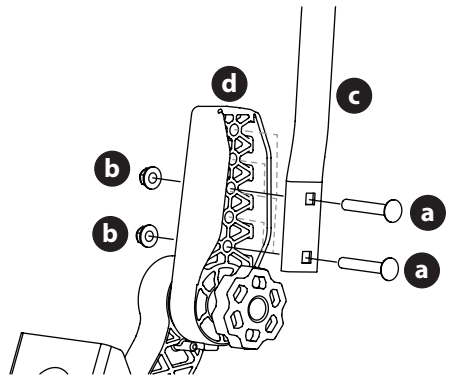

Figure 12
1. Remove the two carriage screws (a) and two flange lock nuts (b) that secure the lapbar drive control lever (c) to the upper handle adjuster (d) (Figure 12).
2. Move the lapbar drive control lever into one of the three available heights and secure in place with the carriage screws and flange lock nuts (Figure 12).
4. If the lapbars do not line up after making the knob adjustment, loosen nuts (b), align lapbars and retighten nuts. Once this fine adjustment is made, the lapbars will align when using the knob adjustment (Figure 12).